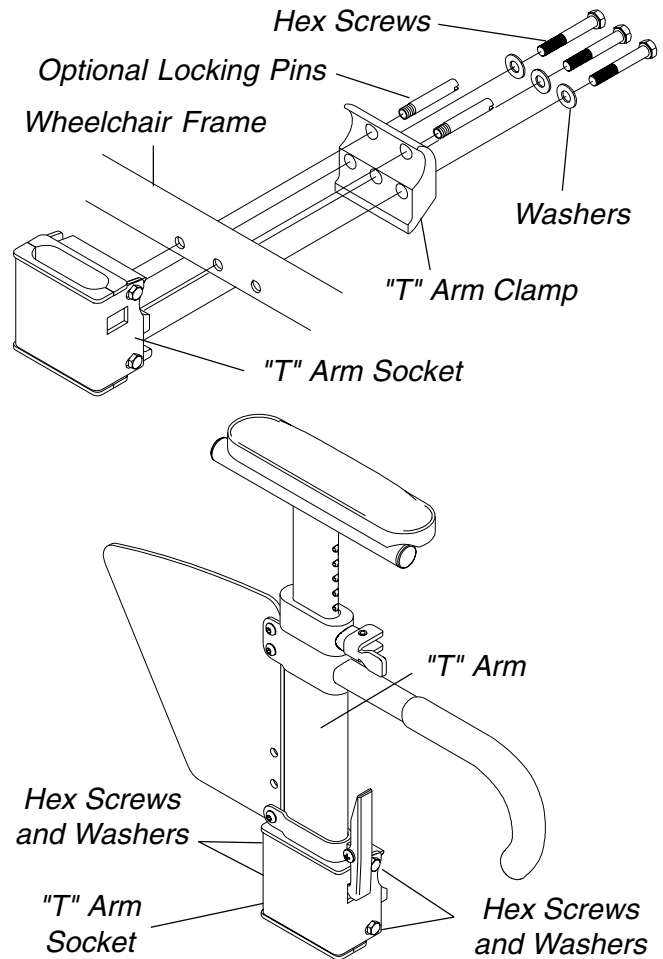

FIGURE 6 - ADJUSTING THE "T" ARMS - "T" ARM SOCKETS
"T" Arm Sockets (FIGURE 6)
- Refer to **FIGURE 6** to determine the mounting hole in the adjustment plate that will be used to correspond to the back angle.